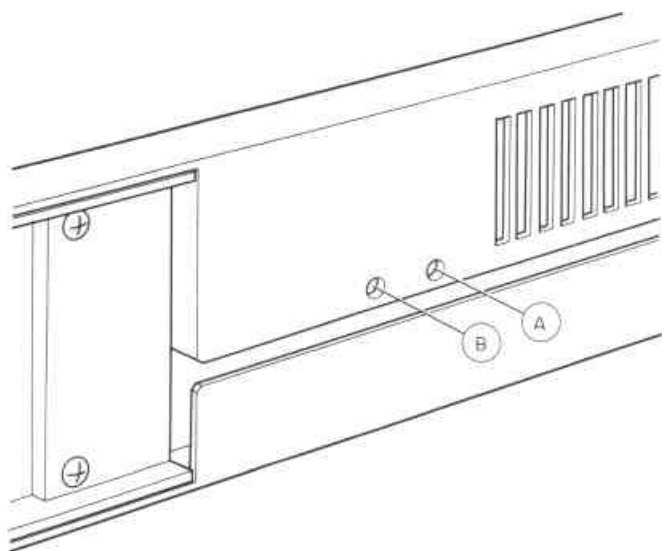

Fig. 2
Insert a screwdriver into holes (A) and (B) in the side as shown in Fig. 2, and remove the screws.